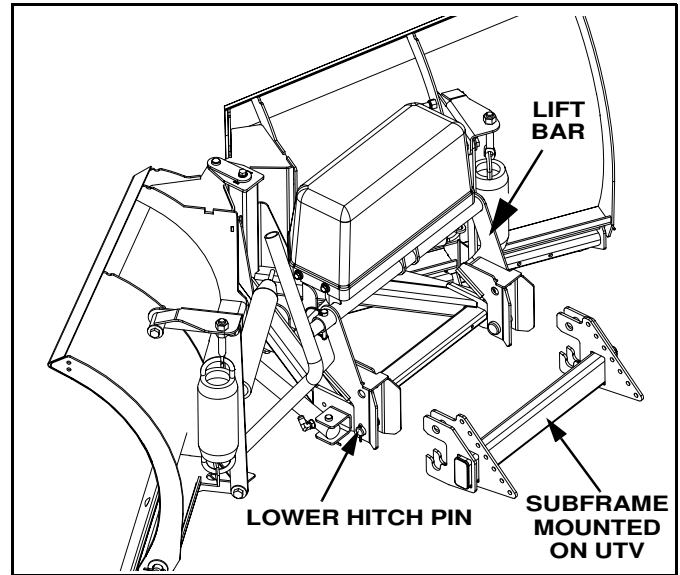

Figure 1-11
1. Drive UTV into plow. Align lift bar frame outside of subframe lugs. Lower hitch pins should fit inside slots cut into subframe lugs. (See Figure 1-11).